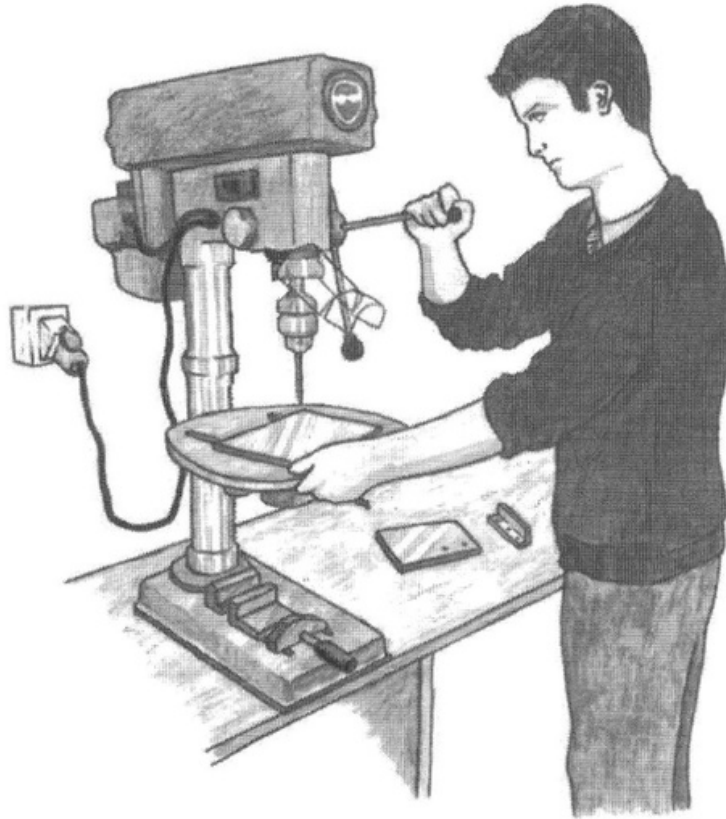

Figure 5
6. **Figure 5** shows a student operating a drill press without wearing proper personal protective equipment. Study the diagram below and answer the following questions: